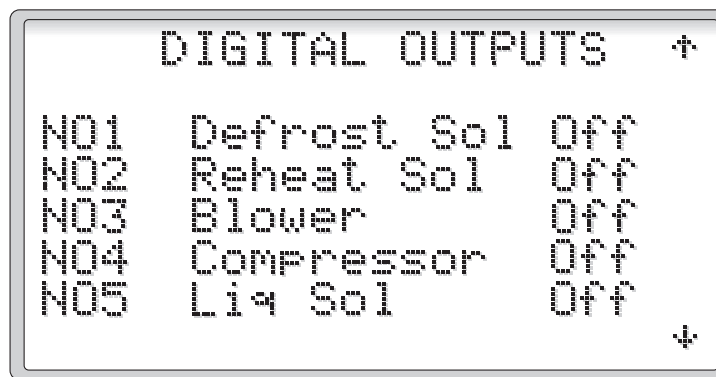

Figure 53
2.3.4.3.3 Digital Outputs (Binary) (Figures 53 - 55)
The Digital Outputs screens shows the state of the device turned on and off by the control system. The first two screens (Figures 53 and 54), shows the state of the relay contacts connected to the controller.